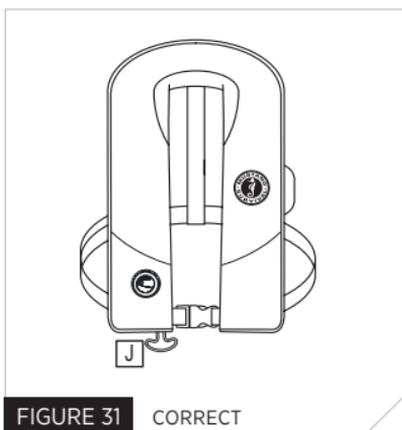

FIGURE 31 CORRECT
10. Ensure the pull-tab (J) is on the outside of the folded PFD. Fig. 31 depicts a correctly folded PFD.